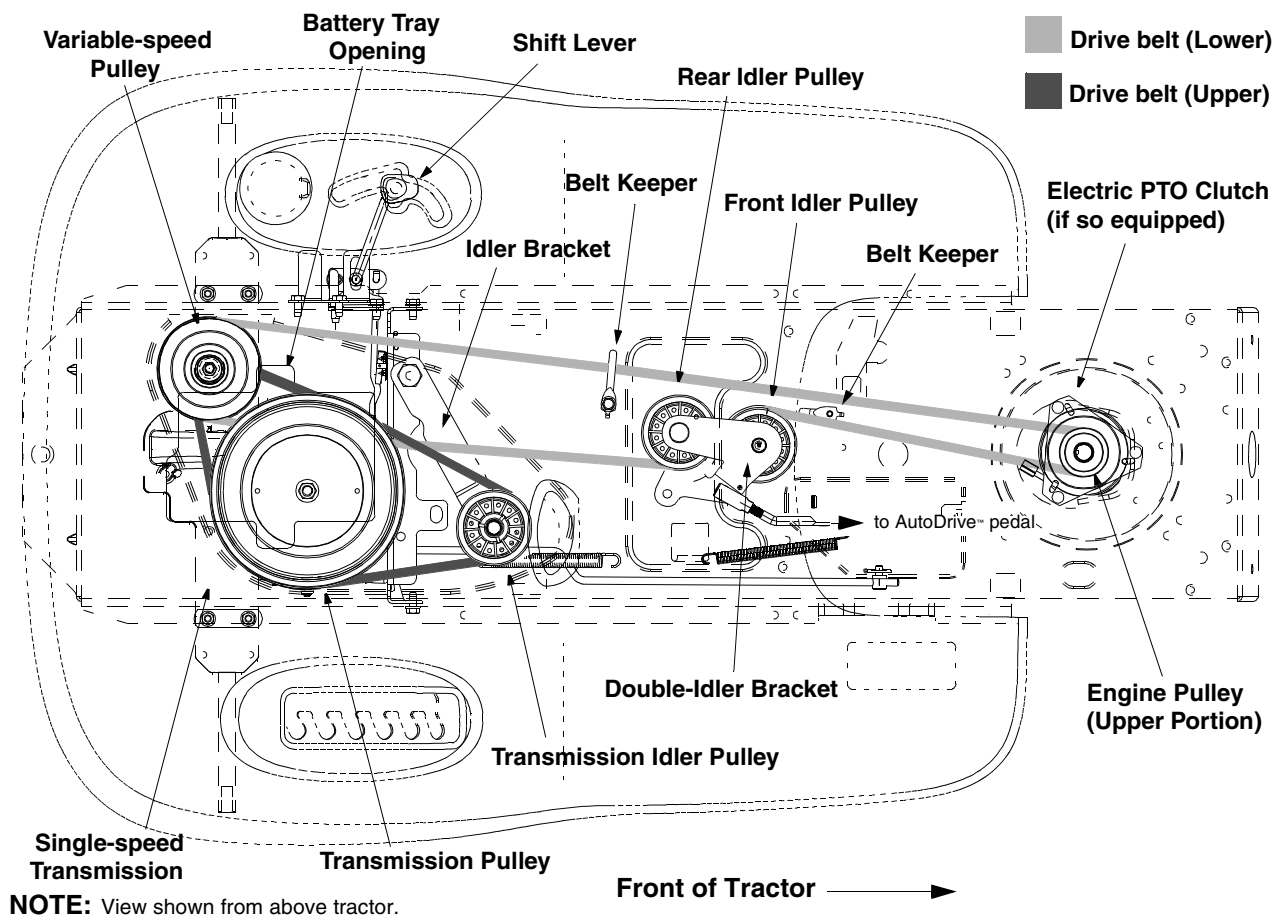

Figure 17
- Locate the transmission idler pulley on the upper drive belt by looking through the battery tray opening. See Figure 17.
- Reroute the new upper drive belt as shown in Figure 17.
- On units equipped with an electric PTO, carefully unplug the tractor's wire harness from the connector on the electric PTO clutch. See Figure 17.